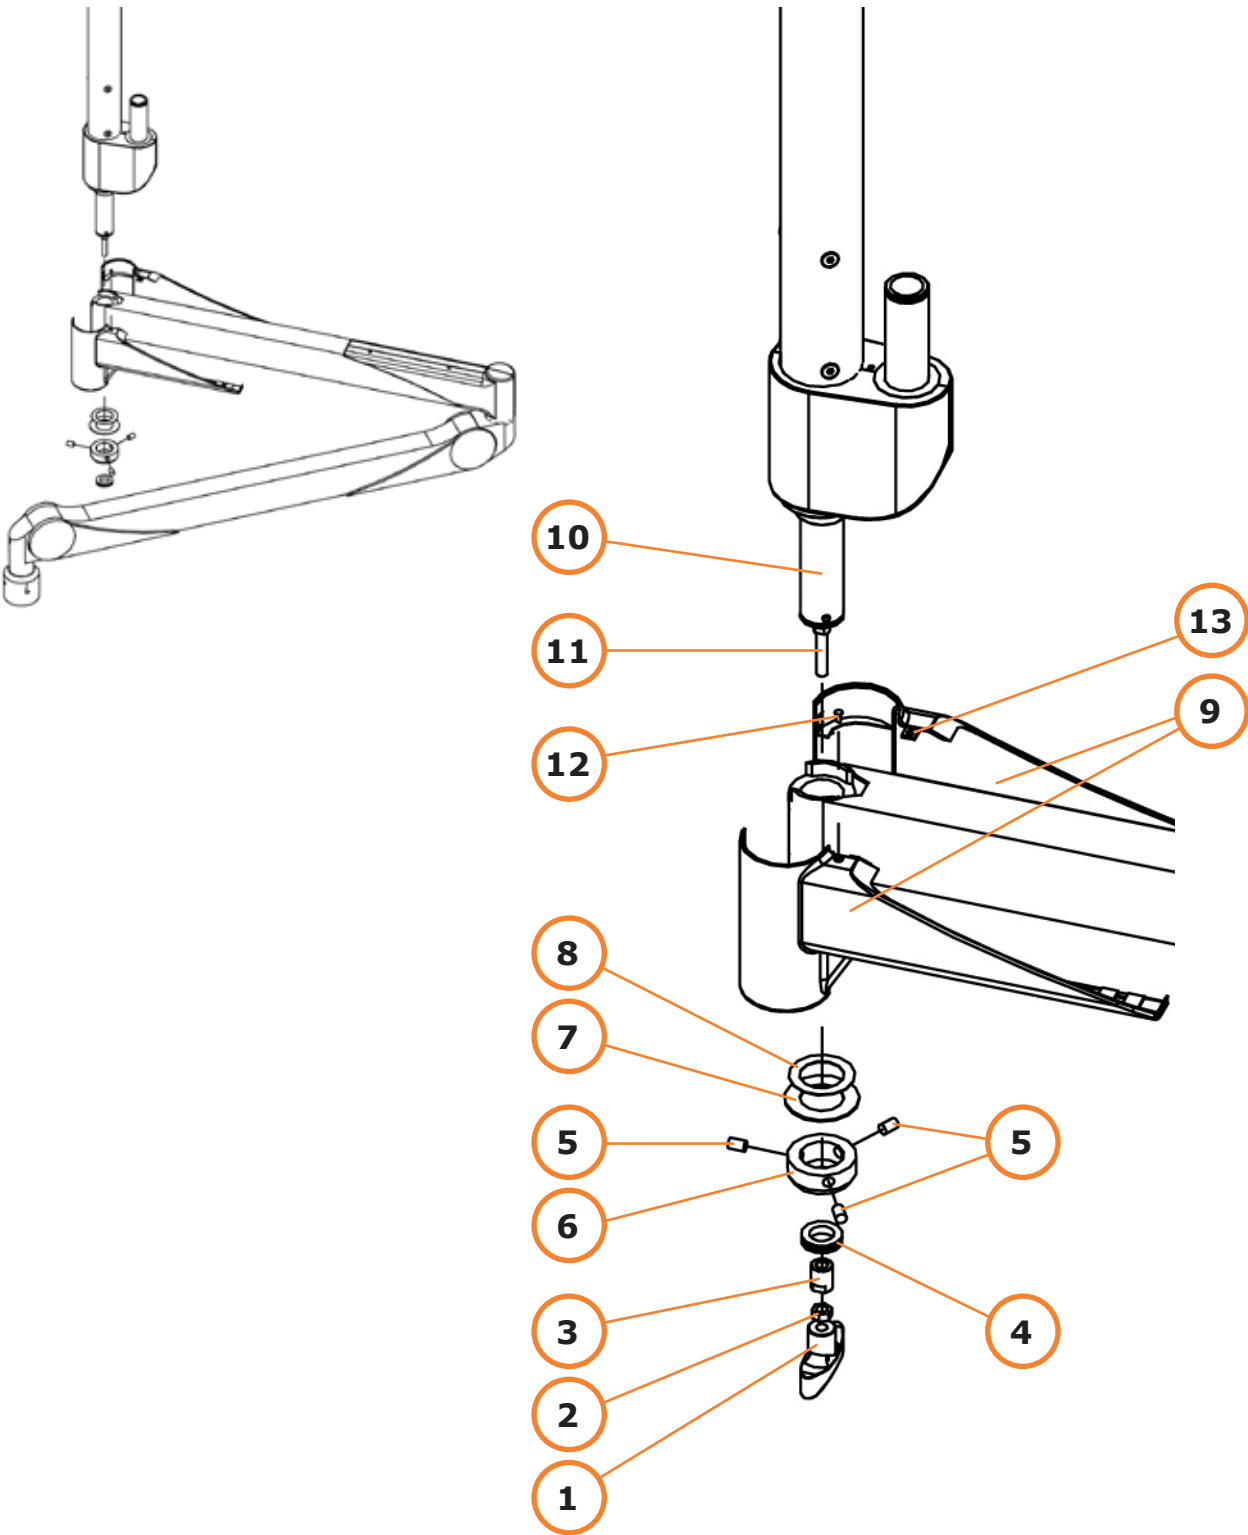

Fig. 22
| 1. | T-handle grip | (1/Fig. 22) | 3. | Locking ring | (3/Fig. 22) |
| 2. | Nut | (2/Fig. 22) | 4. | Cover ring | (4/Fig. 22) |
9.3.2 Remove all 3 screws (5/Fig. 22) in order to carefully remove the safety ring (6/Fig. 22) and both washers (7,8/Fig. 22) from the mounting pin (10/Fig. 22).
9.3.3 Carefully, remove the protection cap from the mounting pin (10/Fig. 22).
9.3.4 Mount the extension/spring arm combination onto the 360° mounting pin (10/Fig. 22).
9.3.5 Place first the metal washer (8/Fig. 22) and then the plastic washer (7/Fig. 22) on the 360° mounting pin.
9.3.6 Apply Loctite® 270 to the 3 set screws (5/Fig. 22) and secure the safety ring (6/Fig. 22) onto the 360° mounting pin with them. Tighten with 20 Nm torque.
9.3.7 Tighten first the locking ring (3/Fig. 22) and then the hexagon nut (2/Fig. 22) to the switch cam.
9.3.8 Slide the cover ring (4/Fig. 22) onto the switch cam (11/Fig. 22).
9.3.9 Apply Loctite® 243 to the T-handle grip (1/Fig. 22) and tighten it with the nut (2/Fig. 22) to the switch cam (11/Fig. 22).
9.3.10 Remove the arm cover (9/Fig. 22) from the ceiling column shipping carton. Use this cover instead of the arm cover supplied with the Portegra2 extension/suspension.
9.3.11 Place the speed nut (13/Fig. 22) on the screw hole tab of the the arm cover. Attach the two halves of the cover (9/Fig. 22) to the arm, ensuring that the cover ring (4/Fig. 22) fits into the hole cut-out of the bottom of the covers. Carefully fit them together and click the pegs into the grooves.
Make sure that the cover's screws (12/Fig. 22). are not screwed too tight, stripping the thread of the cover. Replace the cover if the screw hole has been stripped.
9.3.12 Insert and tighten the mounting screw (12/Fig. 22) into the thread provided.